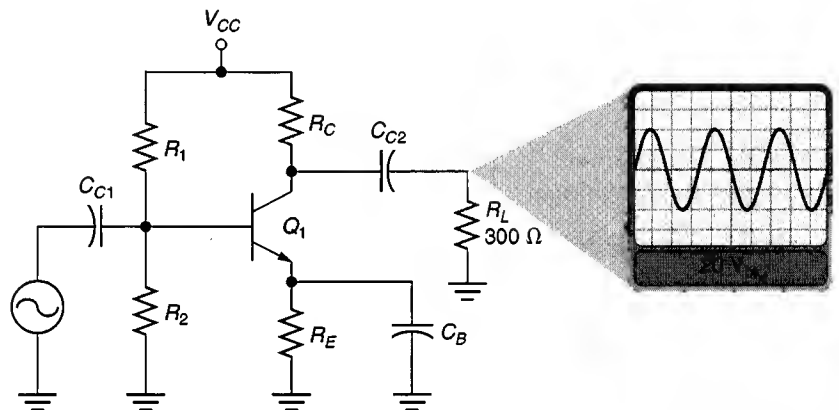

FIGURE 11.11
Determine the ac load power for the circuit shown in Figure 11.11.
7. In this section, you were shown how to calculate load power using rms, peak, and peak-to-peak values. Why isn't there a P_L equation for circuits like the one shown in Figure 11.11 that uses the dc average load voltage?